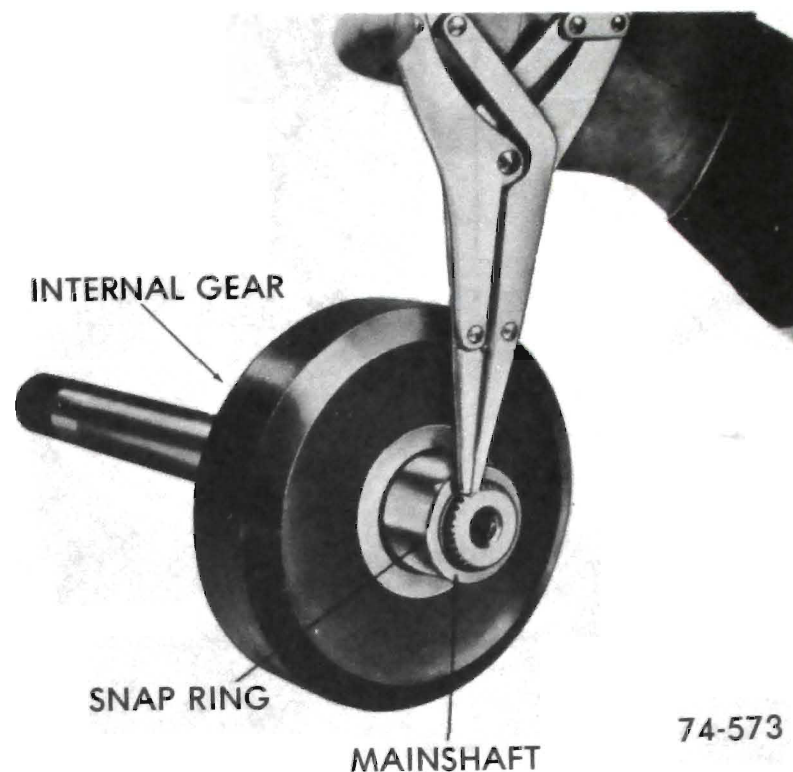

Figure 76-116
14. To remove mainshaft, remove the rear internal gear to mainshaft snap ring. See Figure 76-116.